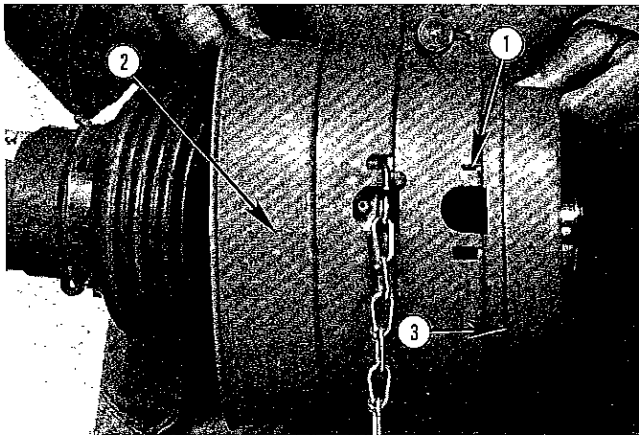

FIGURE 85
1. Refer to Figures 85 and 87, page 43 for removal of necessary P.T.O. shields.
2. Relieve radial drag on the internal snap ring (eg. (1) in yoke (2)) by circumferentially tapping it with a drift. With snap ring pliers, remove it. Repeat this for the other side of the yoke.
2. Relieve radial drag on the internal snap ring (eg. (1) in flange yoke (2) by circumferentially tapping it with a drift. With snap ring pliers, remove it. Repeat this for the opposite side of the flange yoke.
4. Rest joint assembly in a vice with outer yoke (3) across top of vice jaws. Use CAREFUL hammer blows to drive center cross needle bushing (4) upward. Vertically rocking yoke (5), as bushing is driven out, provides ear clearance between yokes (2) and (3).